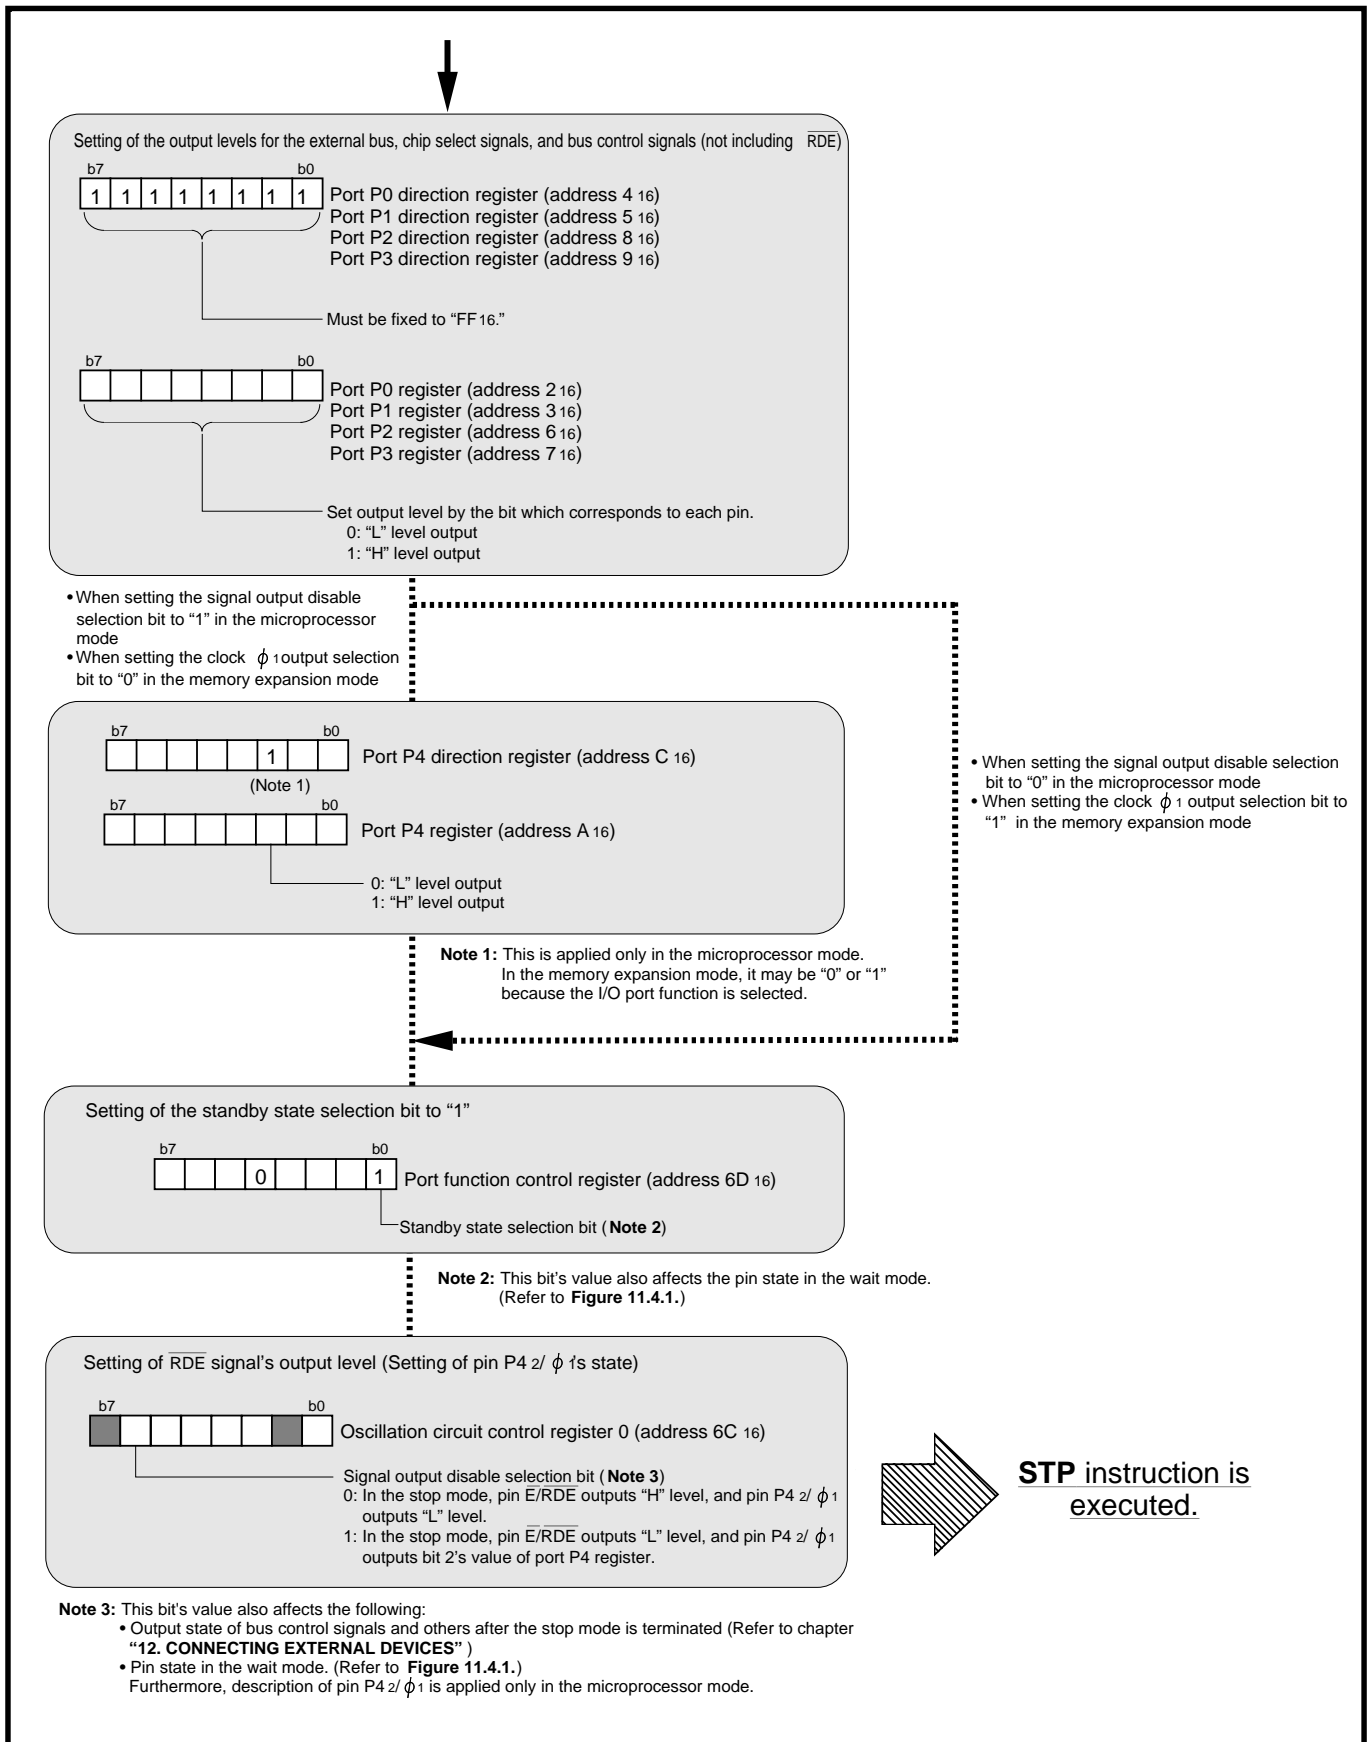

Fig. 11.3.1 Output level setting example in stop mode (Memory expansion or Microprocessor mode)
- **Table 11.3.2 and Figure 11.3.1**
Standby state selection bit*1: Bit 0 at address 6D16 (Refer to **Figure 11.3.1**)